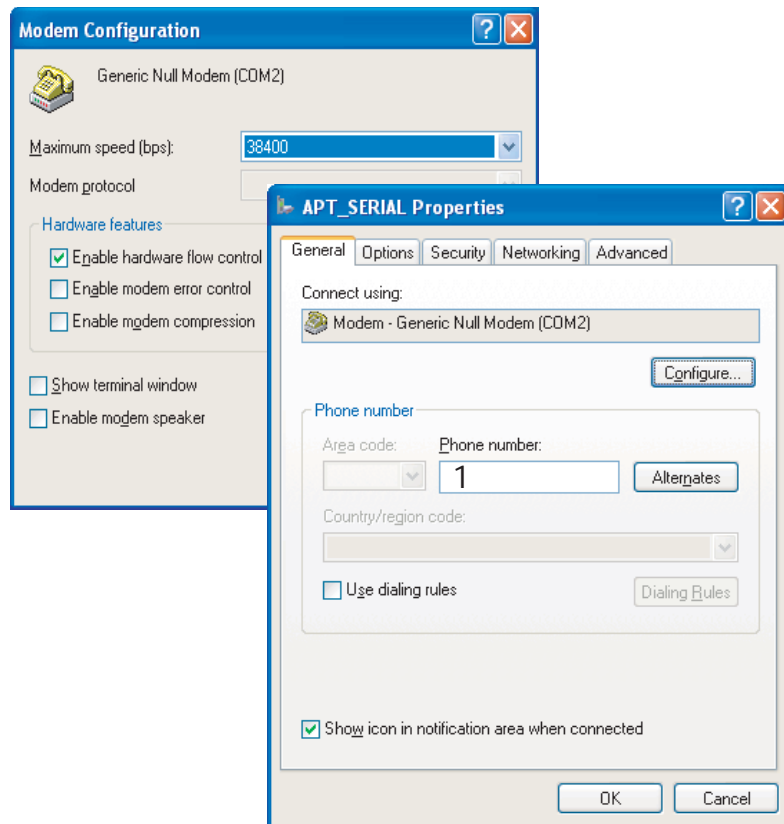

Figure 2.41: Windows XP Select Modem
- 12 Select the *Options* tab of Figure 2.41: Windows XP Select Modem on page 2-28.
- Select the particular modem installed on your PC, shown in Figure 2.41: Windows XP Select Modem on page 2-28.